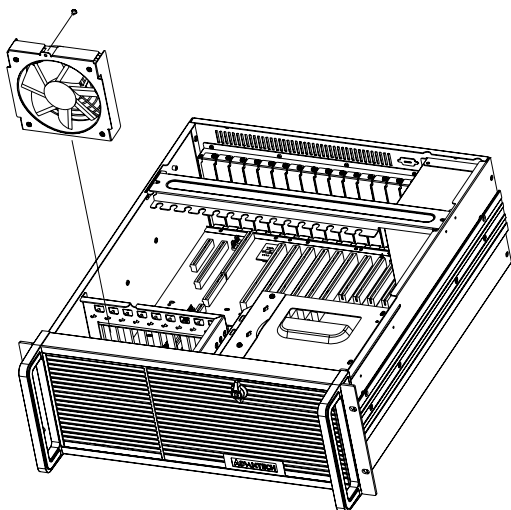

Figure 3.6: Undo the single screw to remove the fan module
3. Undo the screw on top of the fan module and take the fan module out. (see *Figure 3.6*)